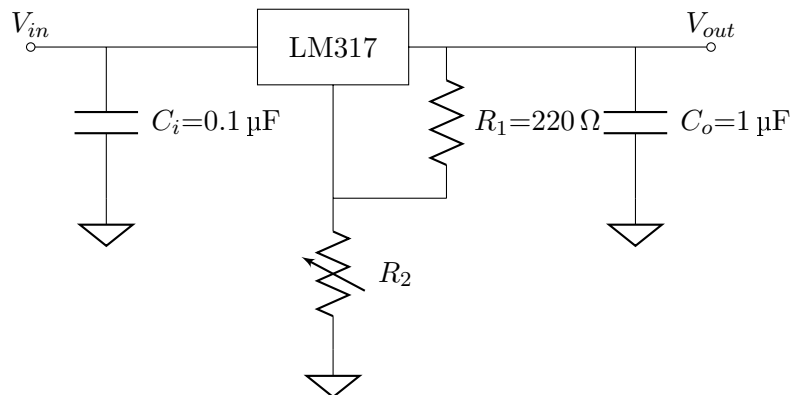

Figure 3: Schematic of the voltage regulator circuit using LM317.
1. Using Fig. 3 as a reference, build the regulator circuit on the breadboard.